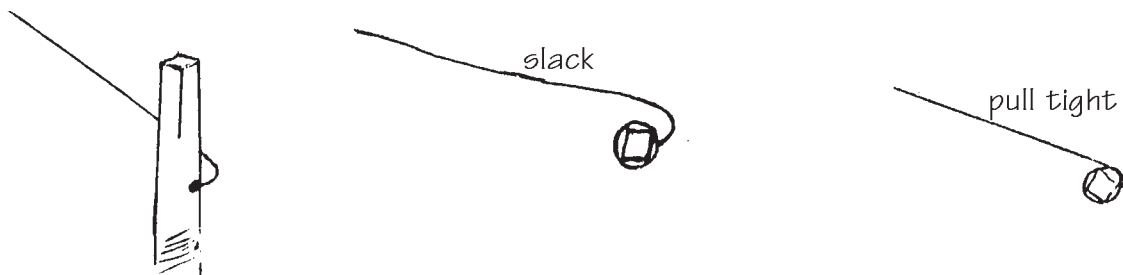

FIG. 15C
C. Use the tuning key to turn the pin clockwise about 1/2 turn, leaving the string loose enough so it does not pull out of the little hole. (fig. 15C)
Then pull the string with your hand to kink the end where it enters the hole, much like “setting the hook” when fishing. (fig. 15C)